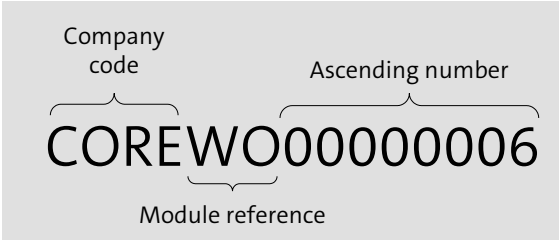

Figure 2.1 System ID Consisting of Company Code, Module Reference, and Sequential Number
Figure 2.1 shows an example of an SAP Fieldglass system ID of a work order (WO). This combination is only assigned once in the system and can be searched for at any time using the search function or the digital assistant to process the relevant document.